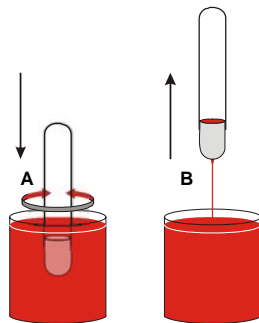

Figure 1. Using the Viscosity Dip Cup
1. Immerse the cup completely into the liquid and twist several times to dislodge any bubbles which may be clinging to the internal surface of the cup (Figure 1, A).
4. Lift the cup vertically out of the liquid (Figure 1, B) and start the stopwatch the moment the top of the cup breaks the surface of the liquid.